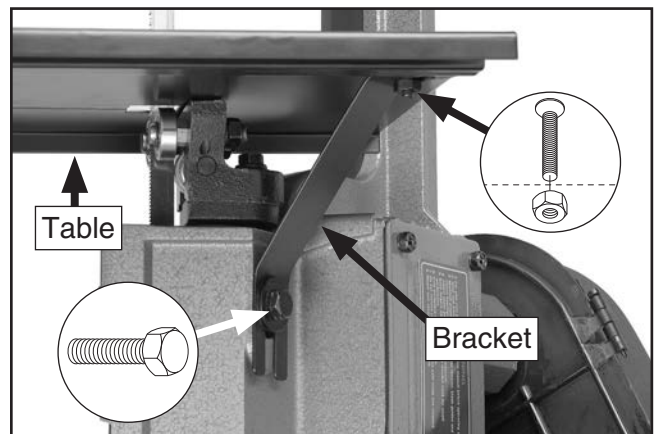

Figure 57. Table and bracket installed.
4. Install vertical work table (see **Figure 57**) and replace flat head screws removed in **Step 3**.
5. Install table bracket with (1) $\frac{1}{4}$ "-20 x $\frac{1}{2}$ " flat head screw, $\frac{1}{4}$ "-20 hex nut, and hex bolt pre-installed in casting (see **Figure 57**). Finger-tighten fasteners for now.